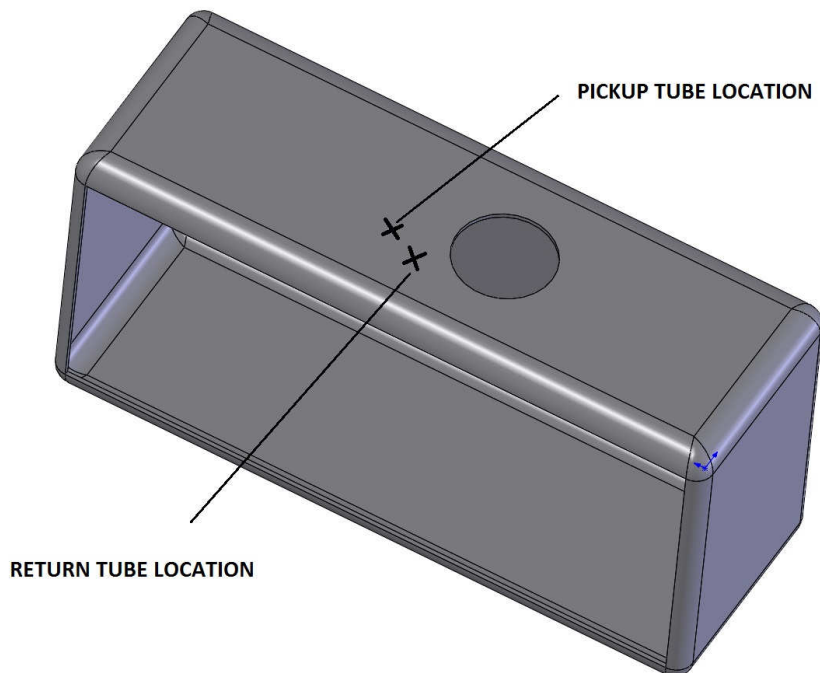

FIGURE 1-5
6. Before removing the fuel tank from the vehicle, mark the tank where there is adequate room between it and the bed. These locations will be used to determine the best spot for the feed and return tubes. Remove the fuel tank from the vehicle and place it on the ground. Remove the factory fuel level sending unit and set aside (careful not to damage it and note the orientation of the float arm). Choose a location that's close to the factory tank opening because you have to reach the backside to install a nut. Before drilling your holes make sure the factory fuel level arm will not come in contact with the Aeromotive baffled pickup assembly (**Location marks are examples only**). Failure to do so will result in the gas gauge not working. **FIGURE 1-5**